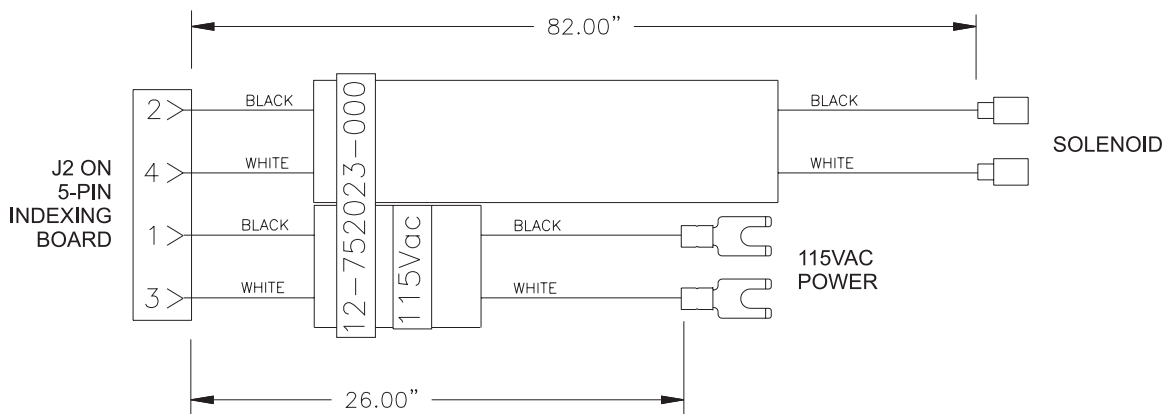

Figure 6
Cable 1 - The solenoid cable 12-752023-000 attached to the solenoid bracket assembly (4 pin connector with 2 heavy black cables with 2 fork terminals on one end and 2 spade terminals on the other). Refer to *Figure 6*.
NOTE The power to the solenoid must be 110 to 120VAC. The best way to connect the 115Vac power cord to the 115Vac voltage is to follow where the Selenium Rectifier (SR), or Magnetic Clutch Power Supply, input wires 40 and 49 are connected. For Universal A2 electrical enclosures the wire number 49 is connected to the terminal B on high voltage terminal strip (TS1). Add the white solenoid wire, neutral, to this terminal. The wire number 40 is connected to the motor contactor (RL3), terminal 3. Add the black solenoid wire, hot, to this terminal. Refer to the Pinsetter Wiring Diagram to match your pinsetters. On Figure 6 illustrates the connection for Universal A2 electrical enclosure.